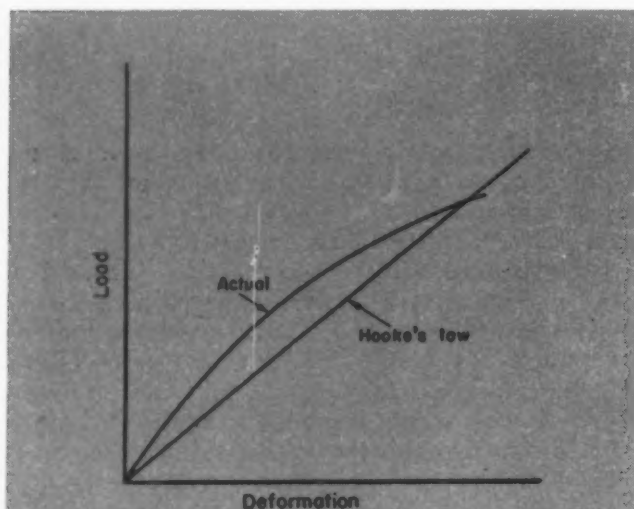

Fig. 3—Above—Load-deflection curve of many spring materials deviates from Hooke's law
**Straight Line Error:** According to Hooke's law, the deformation of a material is proportional to the applied load when loads are fairly small, but the rate of deformation usually deviates with larger loads, Fig. 3. Therefore, for precision force-measuring devices, special means must be provided to assure straight-line relationships between load and deflection. Fig. 4 shows the load deflection relationship of a helical extension spring. The actual measured deflection does not start at zero normally, since there is usually a preload or tare load,  $P_0$ , on the spring. The straight-line error for any given load,  $P$ , is the discrepancy  $MN$  between the actual deflection and the straight line. Metallurgical and mathematical analysis showed that the straight-line error of a helical spring could be improved considerably with the proper selection of the cross-section of the material in relation to other spring dimensions. In particular, it was found that a ratio of width to thickness of 3 to 1, and a ratio of approximately 20 to 1 for the spring index (mean diameter to wire thickness) yielded a minimum straight-line error.